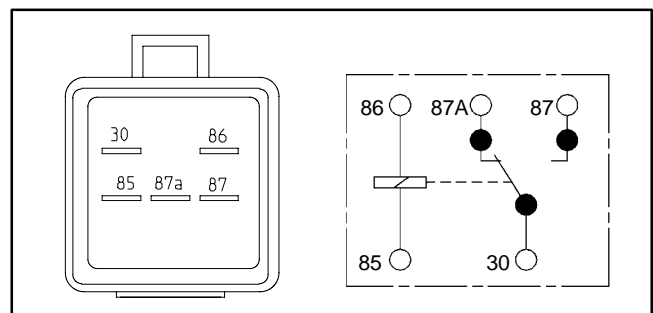

Figure 22
3. Using a multimeter (ohms setting), measure coil resistance between terminals 85 and 86 (Fig. 22). Resistance should be between 70 and 90 ohms.
4. Connect multimeter (ohms setting) leads to relay terminals 30 and 87 (Fig. 22). Ground terminal 86 and apply +12 VDC to terminal 85. The relay should make and break continuity between terminals 30 and 87 as +12 VDC is applied and removed from terminal 85.